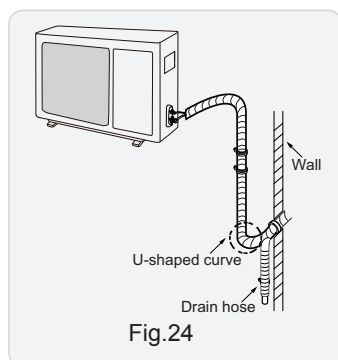

Fig.24
(1) The pipes should be placed along the wall, bent reasonably and hidden possibly. Min. semidiameter of bending the pipe is 10cm.
(2) If the outdoor unit is higher than the wall hole, you must set a U-shaped curve in the pipe before pipe goes into the room, in order to prevent rain from getting into the room.(As show in Fig.24)